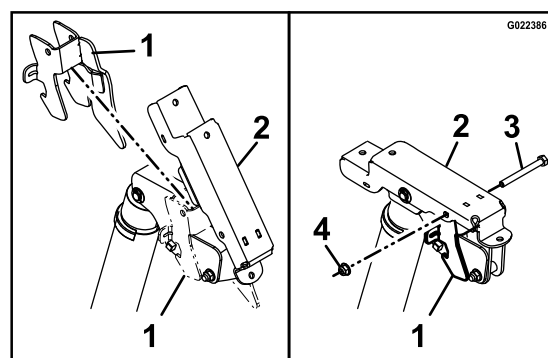

Figure 6
- Raise the hopper-lift bracket, and place the hopper-latch assembly onto the actuator-link assembly (Figure 6).
- Align the holes in the hopper-latch assembly with the hopper-lift bracket, and secure it with a hex-head screw (5/16 x 3 inches) and a flanged nyloc nut (5/16 inch) as shown in Figure 6.